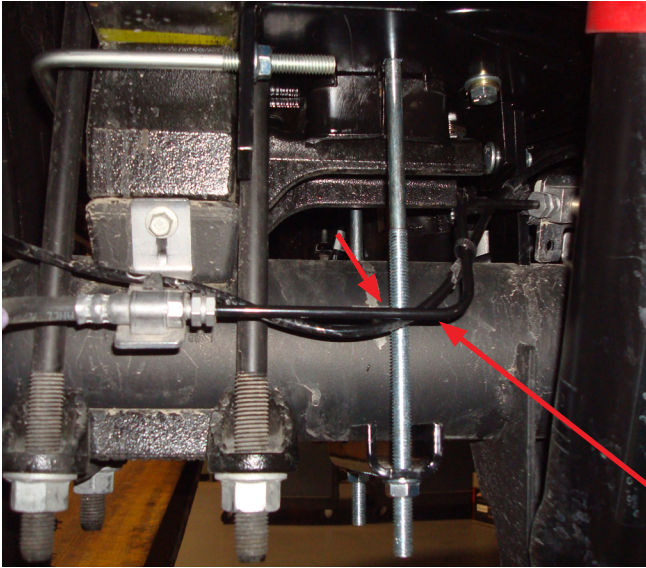
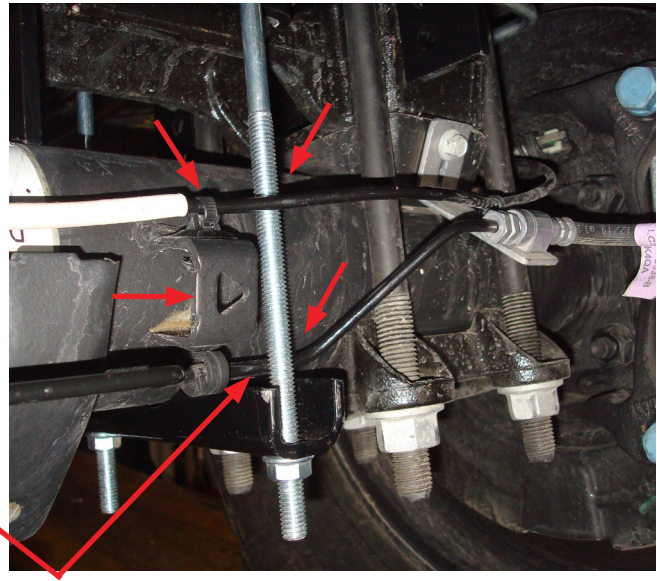

Fig. 34
Fig. 35
On the driver's (left) side, the long carriage bolt in the lower bracket will be between the hard brake line and axle (Fig. 34). On the passenger's (right) side, the carriage bolt will be on the back side of the brake line (Fig. 35).
12. Once the lower brackets are secured, make sure that the brake and ABS lines are not rubbing against the lower bracket carriage bolt. It may be necessary to pull or push the hard brake line away and tie off the ABS line to gain clearance. Note: on the passenger's (right) side, it may be necessary to pull the ABS tree mount out of the top of the bracket. Re-attach by installing the tree mount to the back hole on the bracket and tie off with a zip tie if necessary (Figs. 34 & 35).